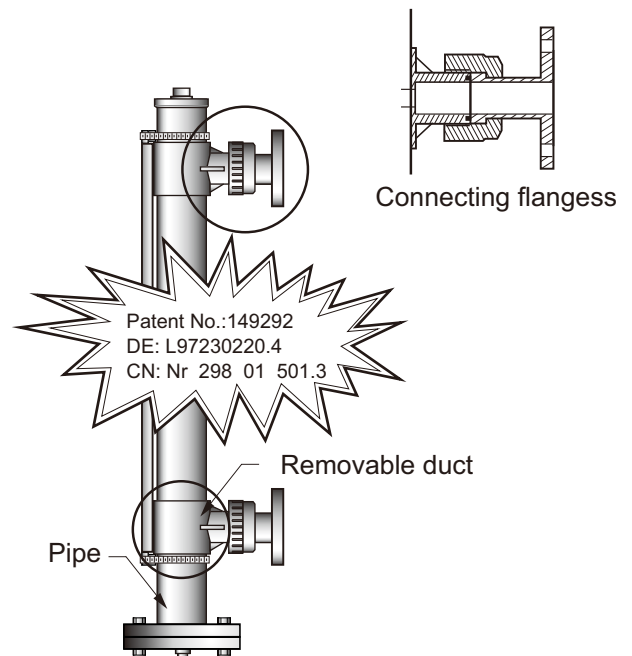

Fig.3
3.) Removable Duct and Connecting flange (Fig.3)